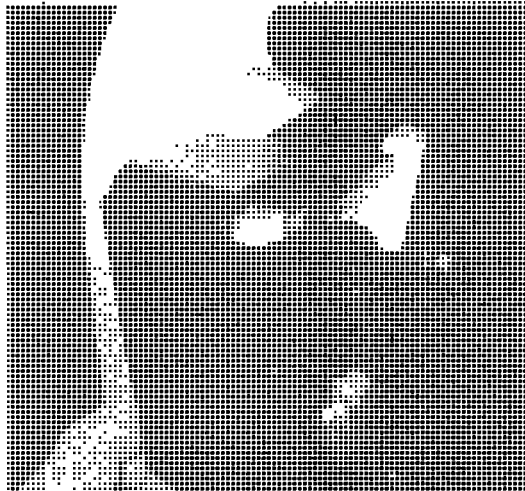

FIGURE 9.
6. Position the belt guard so that its top flange is over the top of the black plastic belt guide and the guard is not touching the seat belt. This should position the right side hole approximately $\frac{1}{4}$ inch below the edge of the bracket being drilled. Mark the location with a center punch and drill an $\frac{11}{64}$ inch diameter hole. Install the right side screw (provided in kit), but leave the screw loose enough to allow some movement of the guard. See FIGURES 9 and 10.